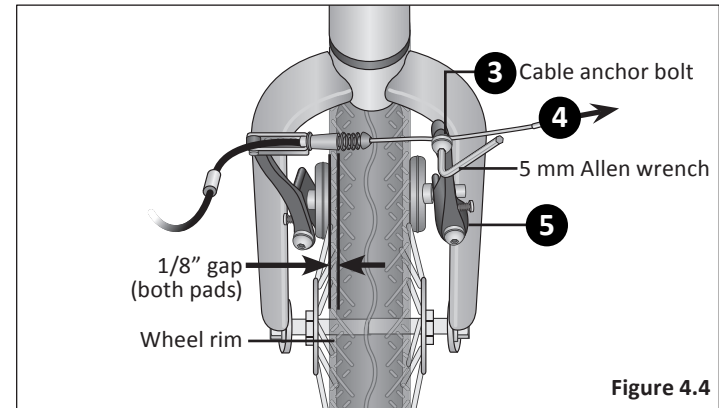

Figure 4.4
- 3 Check the brake cable is seated in the brake lever. Using a 5 mm Allen wrench loosen the cable anchor bolt enough so the brake cable can move freely. **Figure 4.4**